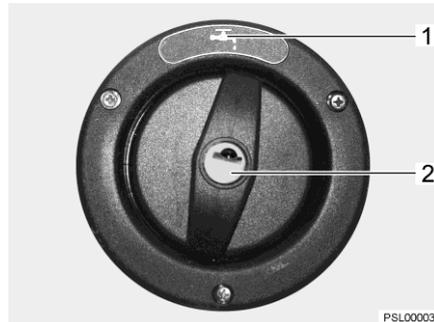

Fig. 120 Cap for the drinking water filler neck
The drinking water filler neck is indicated by the symbol  (Fig. 120,1). The cap is opened and closed using the key for the external flap locks.
- Insert key into locking cylinder (Fig. 120,2) and turn a quarter turn in an anticlockwise direction.
- Open drinking water filler neck (Fig. 120).